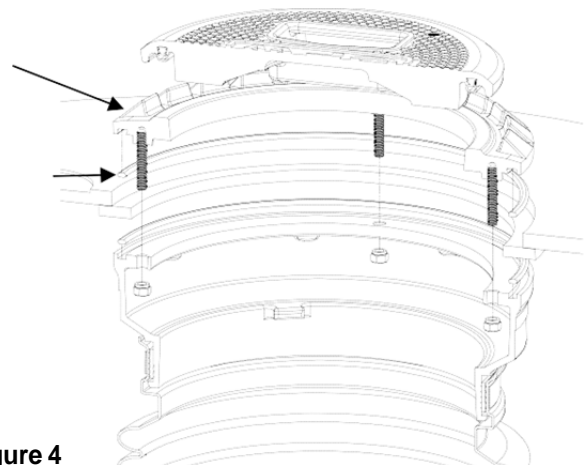

Figure 4
13. Place the mounting ring over the containment buckets and rotate the mounting ring until the studs are aligned with the bucket ring holes. (See Figure 4.)